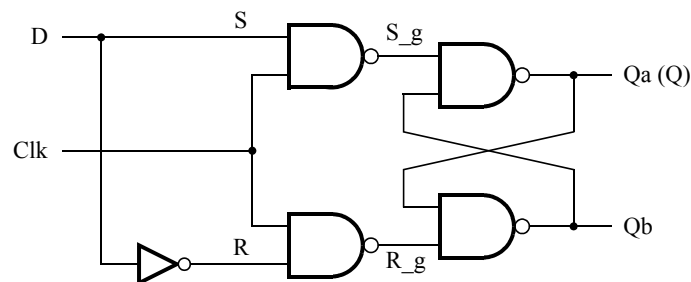
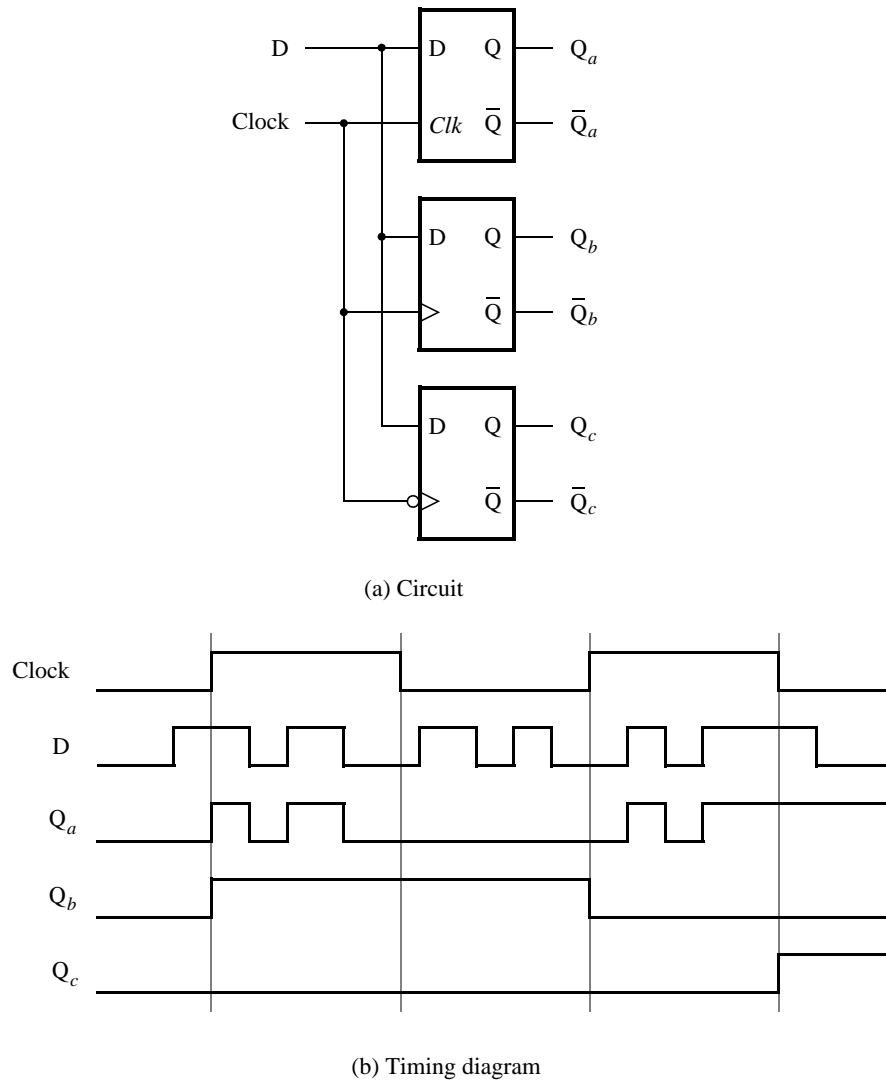

Figure 6: Circuit for a gated D latch.
Figure 8: Circuit and waveforms for Part IV.
Figure 6 shows the circuit for a gated D latch.
Figure 8 shows a circuit with three different storage elements: a gated D latch, a positive-edge triggered D flip-flop, and a negative-edge triggered D flip-flop.
2. Write a Verilog file that instantiates the three storage elements. For this part you should no longer use the `/* synthesis keep */` directive from Parts I to III. Figure 9 gives a behavioral style of Verilog code that specifies the gated D latch in Figure 6. This latch can be implemented in one 4-input lookup table. Use a similar style of code to specify the flip-flops in Figure 8.
4. Use Modelsim to simulate the circuit you created. Use the included testbench file to specify the inputs *D* and *Clock* as indicated in Figure 8. Make sure that the testbench correctly instantiates the module you created and run the simulation to observe the different behavior of the three storage elements.